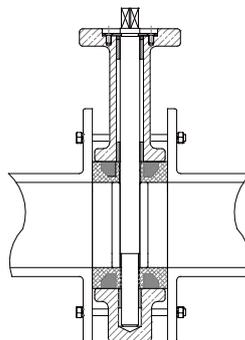

Fig. 2
- Make sure the flange face covers the liner area; then hand-tighten the flange bolts (Fig. 2).